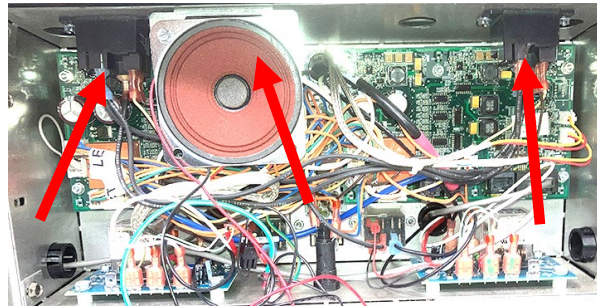
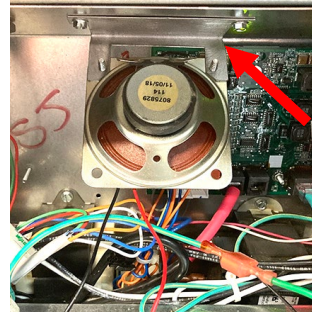

Figure 20
Figure 24
- On gas fryers, the speaker bracket and relay(s) must be relocated towards the rear of the box to allow room for the cooling housing (see Figure 20). On electric fryers, the speaker bracket can be bent down towards the SIB board (see Figure 24). If electric, skip to step 20.
- Rotate the speaker 180° so the speaker is facing the rear of the component box and reattach the bracket to the component box using the screws and the existing holes (see Figure 24). Slightly bend the speaker down.